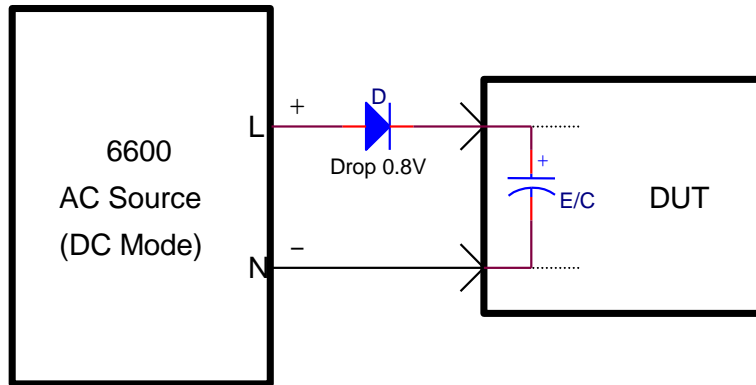
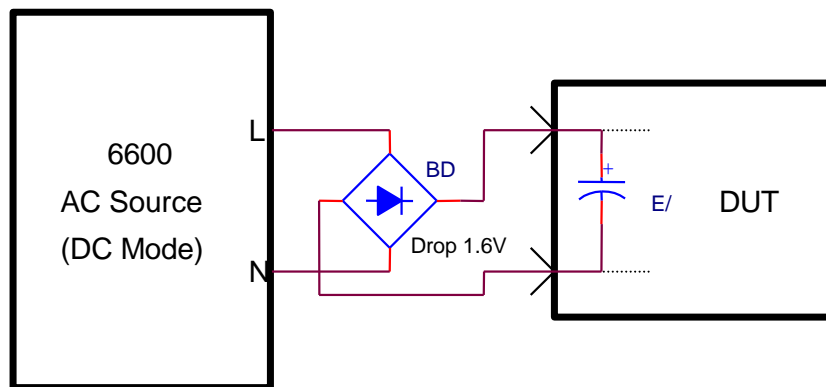

Figure 1
Figure 2
1. If it has an electrolytic capacitor within great capacity on DUT power terminal, you can adopt the connection of Fig. 1 or Fig.2.
Note: The drop voltage of Fig. 1 is lower than Fig. 2, and it needs to be cared output polarity. Oppositely Fig. 2 doesn't to be cared the polarity.